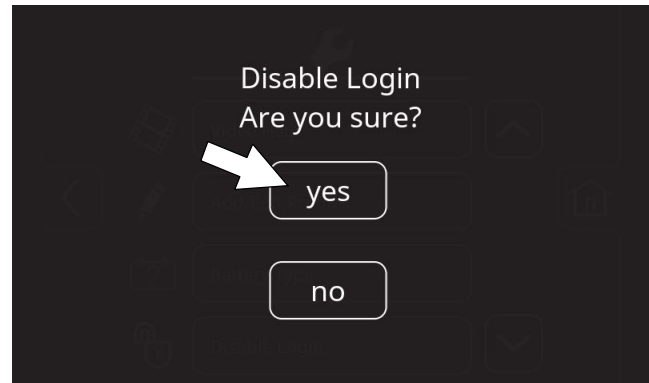

FIG. 168
5. Press the yes button to disable the login at machine start up (Figure 168).